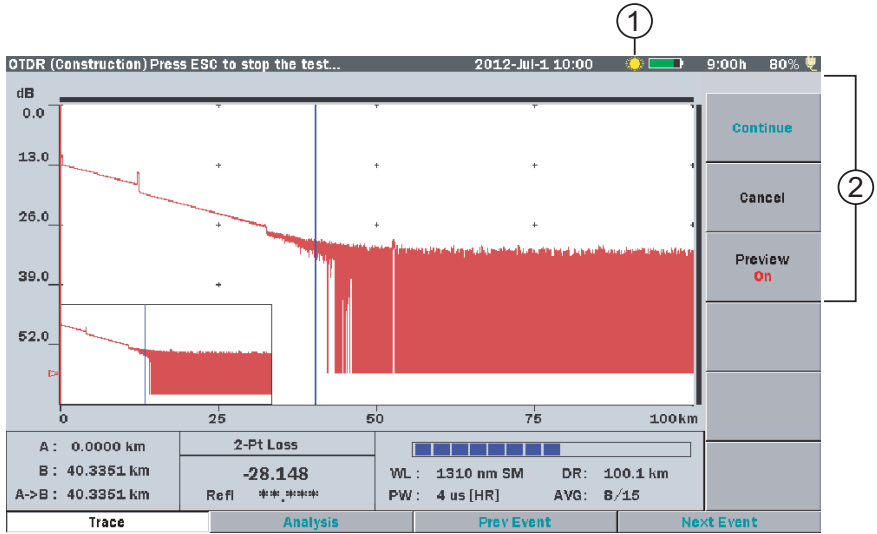

Figure 6-19: Test in Progress screen – OTDR (Construction) mode
When a test has been started, Construction mode enters Analysis mode, displaying the Test in Progress screen (see Figure 6-19).
The flashing Laser On icon (item 1 in Figure 6-19) appears whenever a laser is firing. In OTDR (Construction) mode, the Laser On icon appears on the Test in Progress screen only.
The OTDR (Construction) Test Results screen appears at the end of each test, providing that **Preview (F3)** is set to “**On**” on the Test in Progress screen (see Figure 6-19 on page 6-50).